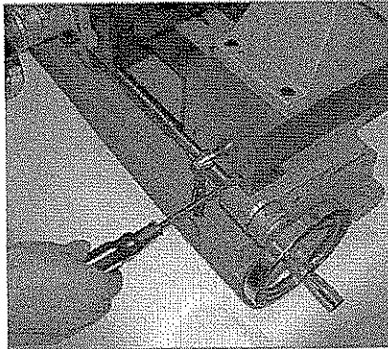

Fig.37
8.4. Adjustment of the Beveled Gib of Tailstock: As shown in Fig.37, make the adjustment until the tailstock can move on the bed evenly and freely.